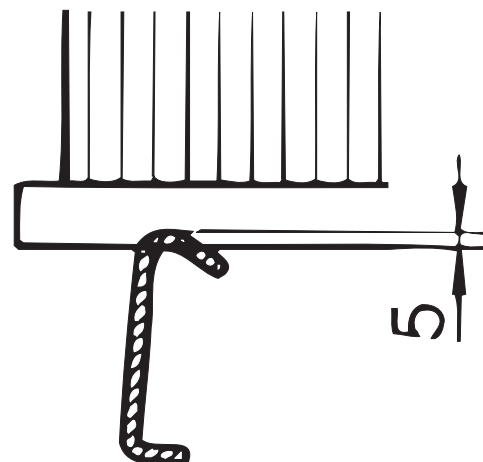

Figure 9
7. After installing the first filter element, turn up the locating bars far enough to permit the lower filter bar to seat about 5 mm (Fig. 9) into the recess of the locating bar.